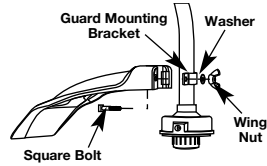

Fig. 7
2. From inside the cutting head shield, push the square bolt through the hole until the threaded end protrudes through the guard mounting bracket (Fig. 7).
WARNING: Avoid accidental starting. Make sure you are in the starting position when pulling the starter rope (Fig. 7). To avoid serious injury, the operator and unit must be in a stable position while starting.